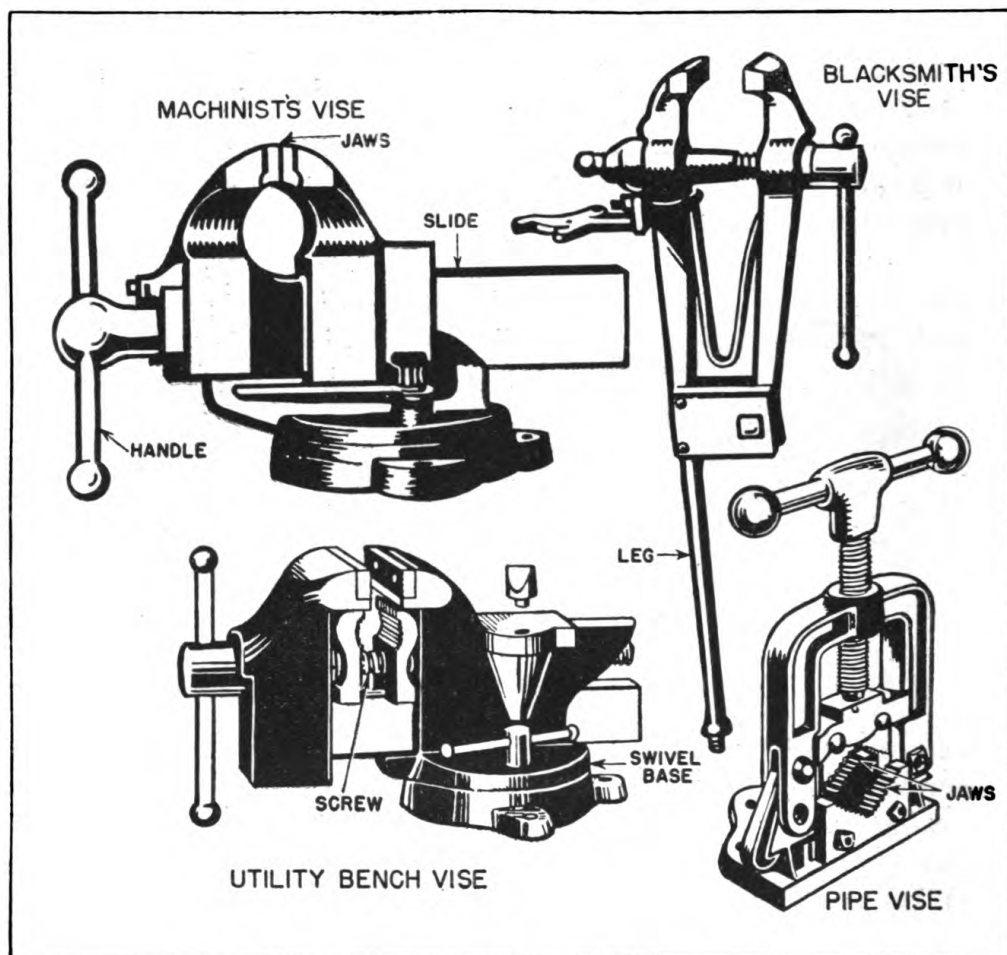

FIGURE 14.—Types of vises.
6. Holding devices.—*a. General.*—Vises and clamps are tools used for holding work of various kinds on which some operation is being performed. The most commonly used types are shown in figures 14 and 15.